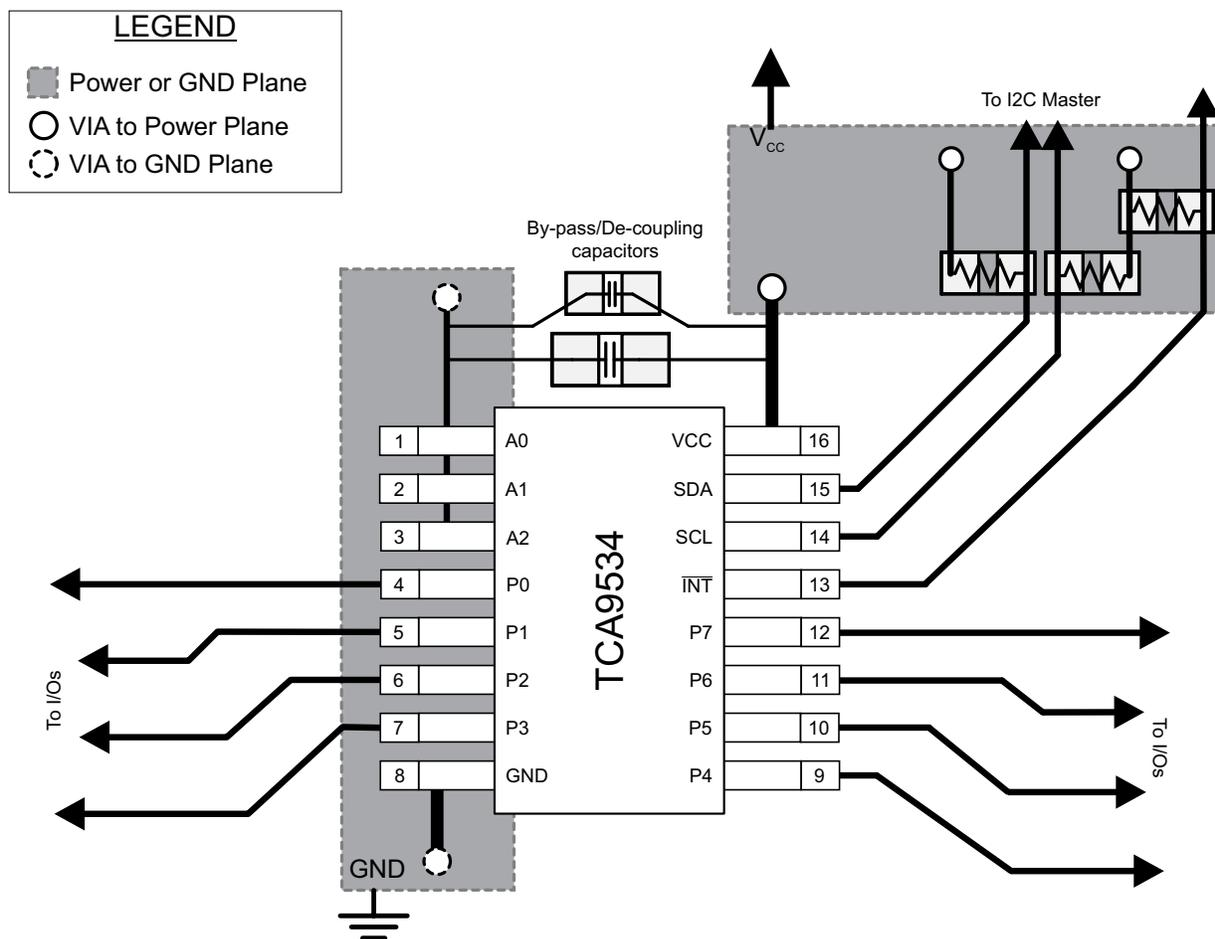

Figure 31. TCA9534 Layout
In all PCB layouts, it is a best practice to avoid right angles in signal traces, to fan out signal traces away from each other upon leaving the vicinity of an integrated circuit (IC), and to use thicker trace widths to carry higher amounts of current that commonly pass through power and ground traces. By-pass and de-coupling capacitors are commonly used to control the voltage on the VCC pin, using a larger capacitor to provide additional power in the event of a short power supply glitch and a smaller capacitor to filter out high-frequency ripple. These capacitors should be placed as close to the TCA9534 as possible. These best practices are shown in Figure 31.
For the layout example provided in Figure 31, it would be possible to fabricate a PCB with only 2 layers by using the top layer for signal routing and the bottom layer as a split plane for power (V_{CC}) and ground (GND). However, a 4 layer board is preferable for boards with higher density signal routing. On a 4 layer PCB, it is common to route signals on the top and bottom layer, dedicate one internal layer to a ground plane, and dedicate the other internal layer to a power plane. In a board layout using planes or split planes for power and ground, vias are placed directly next to the surface mount component pad which needs to attach to V_{CC} or GND and the via is connected electrically to the internal layer or the other side of the board. Vias are also used when a signal trace needs to be routed to the opposite side of the board, but this technique is not demonstrated in Figure 31.